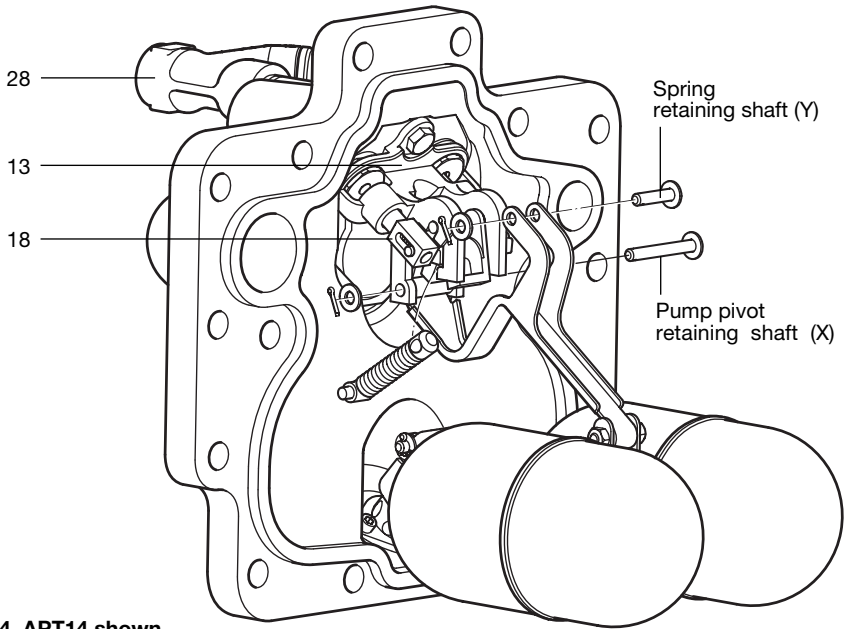
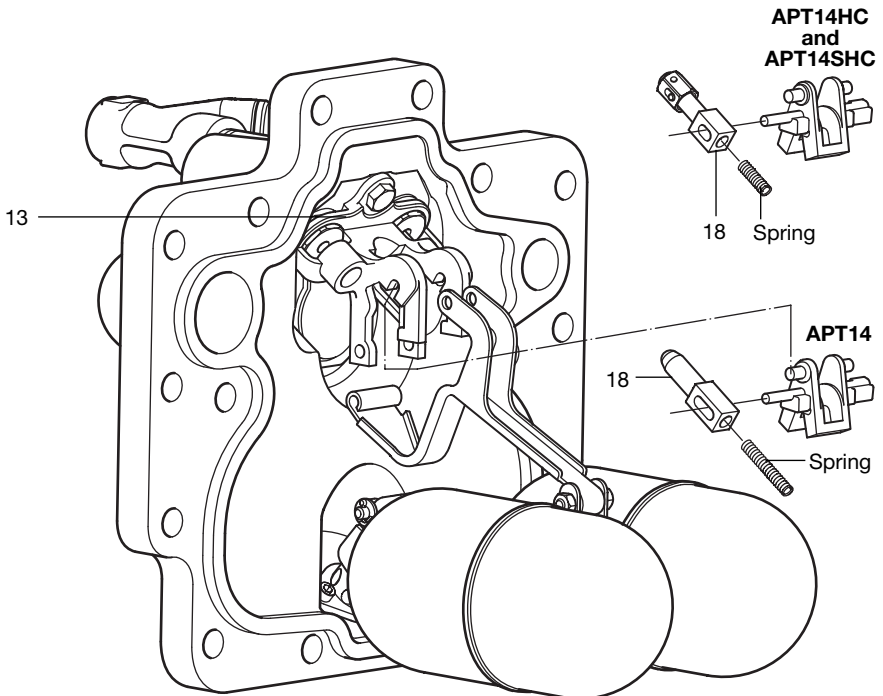

Fig. 4 APT14 shown
Fig. 5 APT14 shown
4. Remove split pins, washers, and shafts (X and Y) from the top spring pivot and pump pivot points (See Figure 4).
6. Draw the actuator arm with the exhaust valve downwards within its slots until it becomes free. It may be necessary to slide the exhaust valve (item 18) backwards against its internal spring to free it from the pump bracket guide (item 13), see Figure 5.
7. Remove the exhaust valve from the actuator arm (item 24, shown in Figure 4) being careful not to damage or lose the small exhaust valve compression spring.
9. **Fitting the new spring assembly and actuator arm is the opposite to removal.** Remember to compress the small spring within the exhaust valve (item 18) before refitting to the spigot of the new actuator arm.
10. Ensure the actuator is correctly aligned and located within the slots of the pump bracket (item 13) (see Figure 5).
12. Always use new split pins and washers when refitting the spring retaining shaft (Y) and pump pivot shaft (X).
15. Carefully reconnect the motive steam supply and the exhaust lines to the connections marked (S) and (E). The APT14, APT14HC or APT14SHC is now ready to recommission.
16. Make sure that the Spirax Sarco motive supply strainer (with 100 mesh screen) is reinstated to the motive supply connection (item 28, Figure 4).